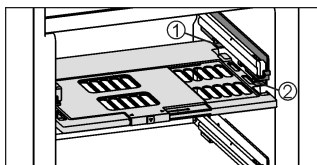

Fig. 11
- ▶ To insert the humidity control plate: Insert the guide pieces of the plate into the rear retainer Fig. 11 (1) from below, then snap the plate into the retainer Fig. 11 (2) in the front.